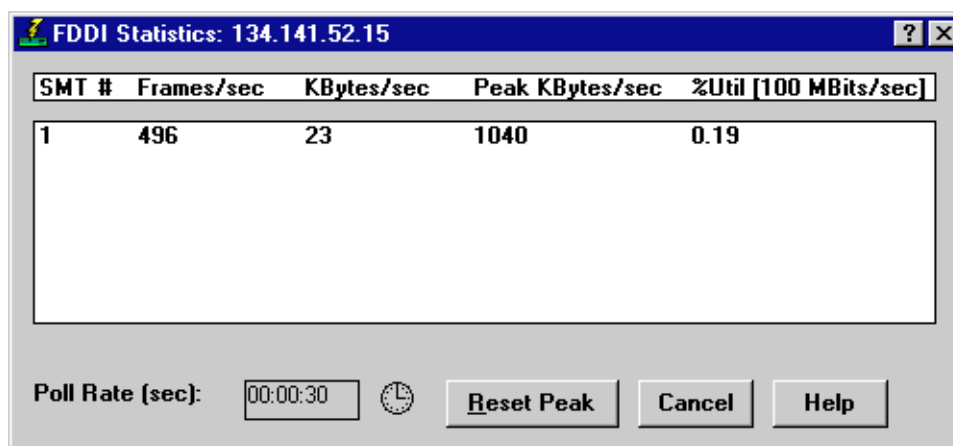

Figure 6-6. The FDDI Statistics Window
2. Click on **FDDI Statistics**. The FDDI Statistics window (Figure 6-6) will appear.